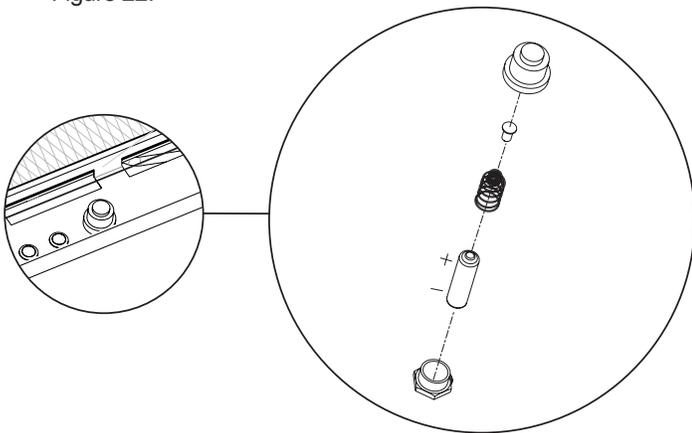

Figure 22
4. Unscrew the ignitor button and install the AA battery provided in the instruction envelope prior to closing the control door. See Figure 22.